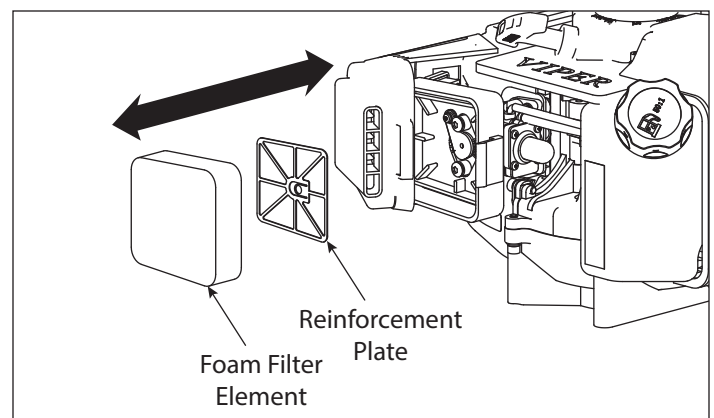

Figure 7
4. Remove the foam filter element (**SEE FIGURE 7**) and replace with a new oiled filter, or clean the original foam filter with warm water and mild soap. Remember to thoroughly oil the foam filter with 30 or 40 weight motor oil and squeeze out any excess oil.